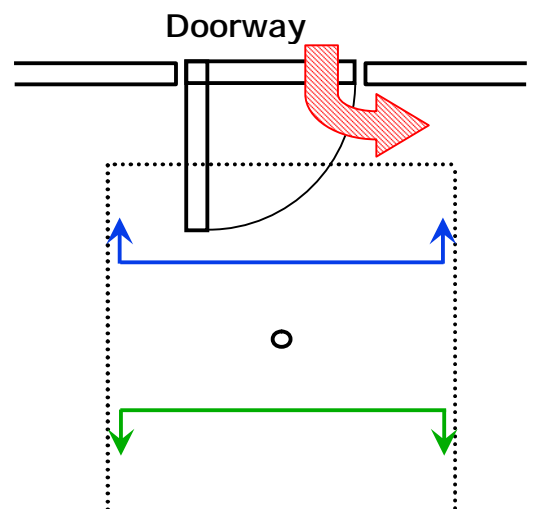

Figure 10.3
- Do not move the counter too far away from the door so that an opening is formed. People who are not seen in the field of view will not be counted and accuracy would therefore be affected. See Figure 10.3.